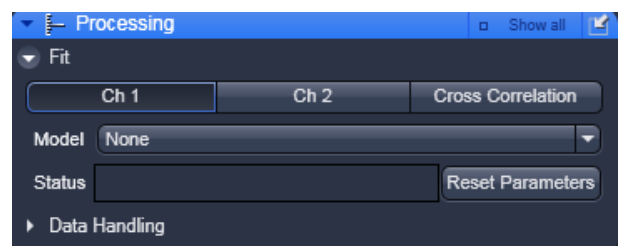

Fig. 9-48 Fit panel
- Click on the **Fit** tab to open the **Fit** control panel (Fig. 9-48). Click the tab again to close the panel.